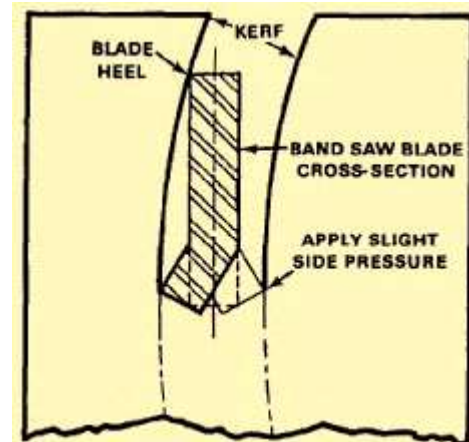

Figure 6-19. Radius limitation for bandsaw blade
**Radius Sawing:** Is performed on the bandsaw by either guiding the workpiece by hand or by using the disk-cutting attachment. Care must be taken to select a bandsaw blade of the proper width for the radius or circle to be cut. If the blade is too wide for the radius, the heel of the blade will press against the outer edge of the kerf (Figure 6-19). When the heel contacts this edge, any further twisting of the workpiece in an attempt to cut a sharper radius will twist the bandsaw blade and may result in the blade breaking.
**Cutting Pressure:** When cutting a radius, apply a slight side pressure at the inner cutting edge of the bandsaw blade (Figure 6-19). This pressure will give the blade a tendency to provide additional clearance.